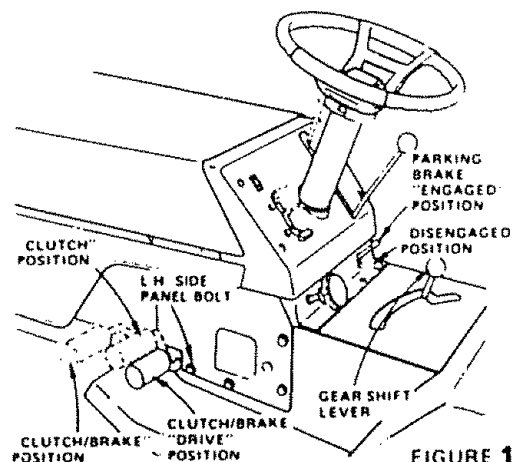

FIGURE 19
- Connect the other end of the cable to the L.H. side panel bolt (Fig. 19) **NOTE: KEEP AWAY FROM GAS TANK AND BATTERY.**
- L.H. side Panel Bolt (Fig. 19)